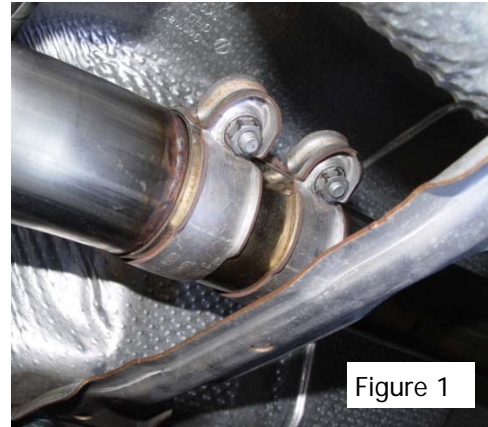

Figure 1
3. Note that each tubing slip joint is an adjustment point on the AWE Tuning exhaust to ensure proper fitment. Also note that some of the factory exhaust hangers are also adjustable with slotted bolt holes to allow further adjustments. Reuse the factory sleeve clamp to attach our cat-back to the factory downpipe or to attach it to our downpipe. See Figure 1.